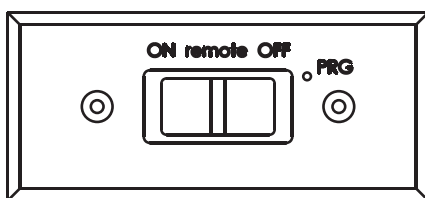

FIG 1: RECEIVER / BATTERY PACK
5. Wait five (5) minutes to clear out any gas. Then smell for gas, including near the floor. If you smell gas, **STOP!** Follow "B" in the safety information above. If you don't smell gas, go to the next step.
6. You must now synchronize the remote with the Receiver/Battery Pack (for 1st time use) by pressing the PRG button on the Battery Pack (**FIG 1** (Battery Pack is situated behind the hinged panel that is below the firebox)) followed by pressing the "ON" button on the remote.
7. Press the "ON" button on the Remote (**FIG 2**) or if not using the Remote turn the switch on the Battery Pack to the "ON" position (see **FIG 1**).
1. Press the "OFF" button on the remote or if not using the remote turn the switch on the battery pack to the "OFF" position. (See **FIG 1**)